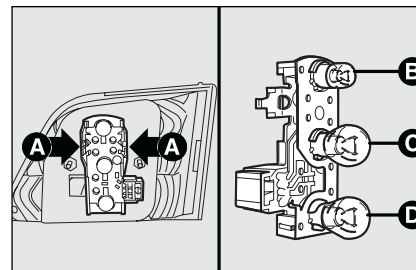

fig. 35
- ☐ push the bulb holder side tabs **A**-fig. 35 inwards to remove it;